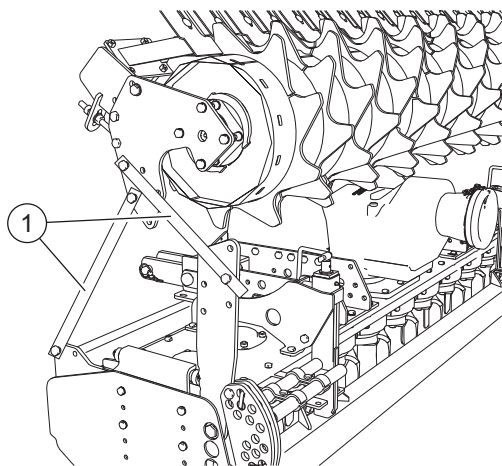
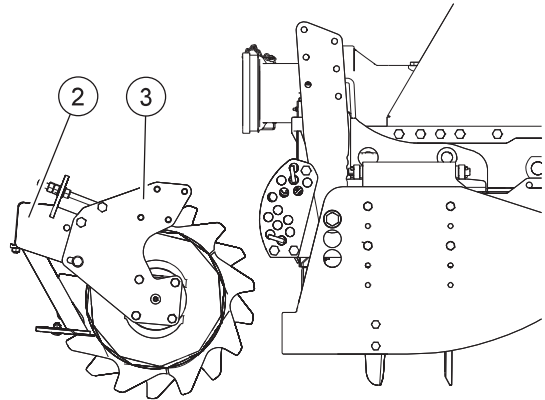

FIG. 9
FIG. 10
The machine may be delivered with the roller disassembled from the supports and hitched with iron clamps (1, “Fig. 9”) on the machine.
- Loosen the screws fixing the clamps (1, “Fig. 9”) to the roller.
- Impede the rotation of the scraper holder bar (1).
- Place the roller on the ground with the support plates (2, “Fig. 10”) set in the assembly direction.